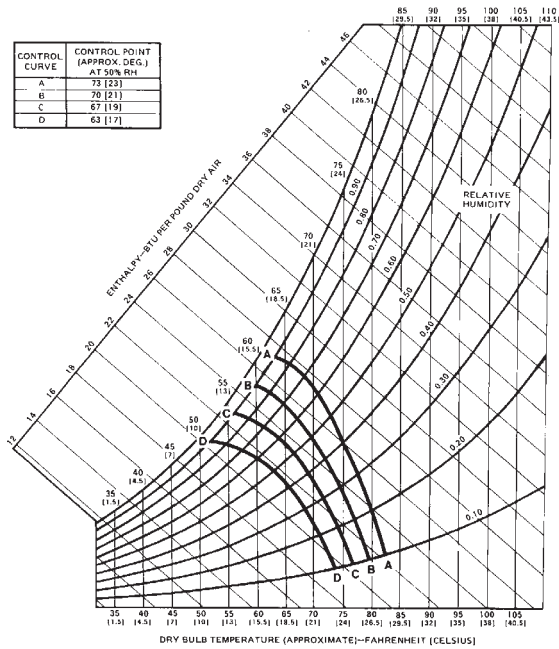

FIG. 8 - ENTHALPY SET POINT ADJUSTMENT
- The enthalpy set point for the dampers may now be set by selecting the desired set point from graph in Figure 8. For a single enthalpy economizer, carefully turn the set point adjusting screw to the "A", "B", "C" or "D" setting corresponding to the lettered curve. For a dual enthalpy economizer, carefully turn the set point adjusting screw fully clockwise past the "D" setting.